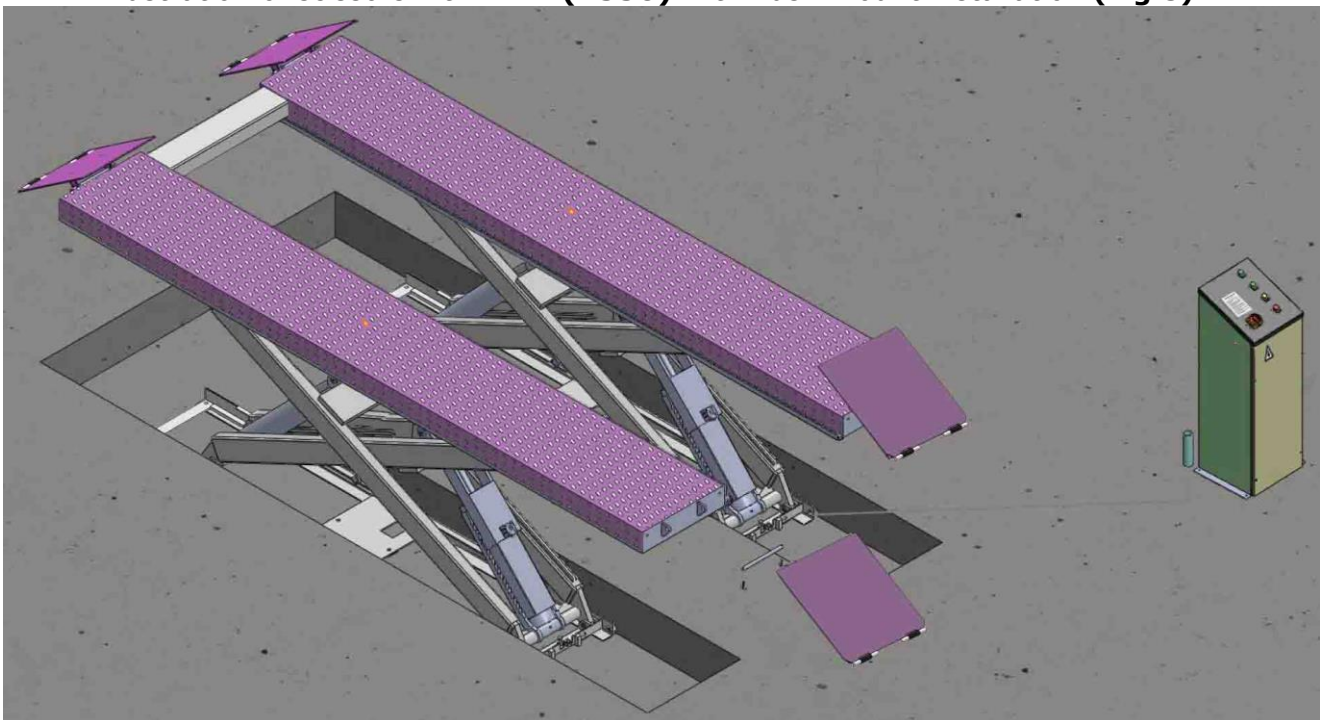

Fig. 8
2.2 Illustration of scissors lift TLX12(X550) with flush mount installation (Fig.8).